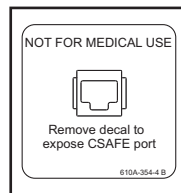

Figure 15
- B. Remove NOT FOR MEDICAL USE label from the console mounting plate on the rear console cover. See Figure 15.